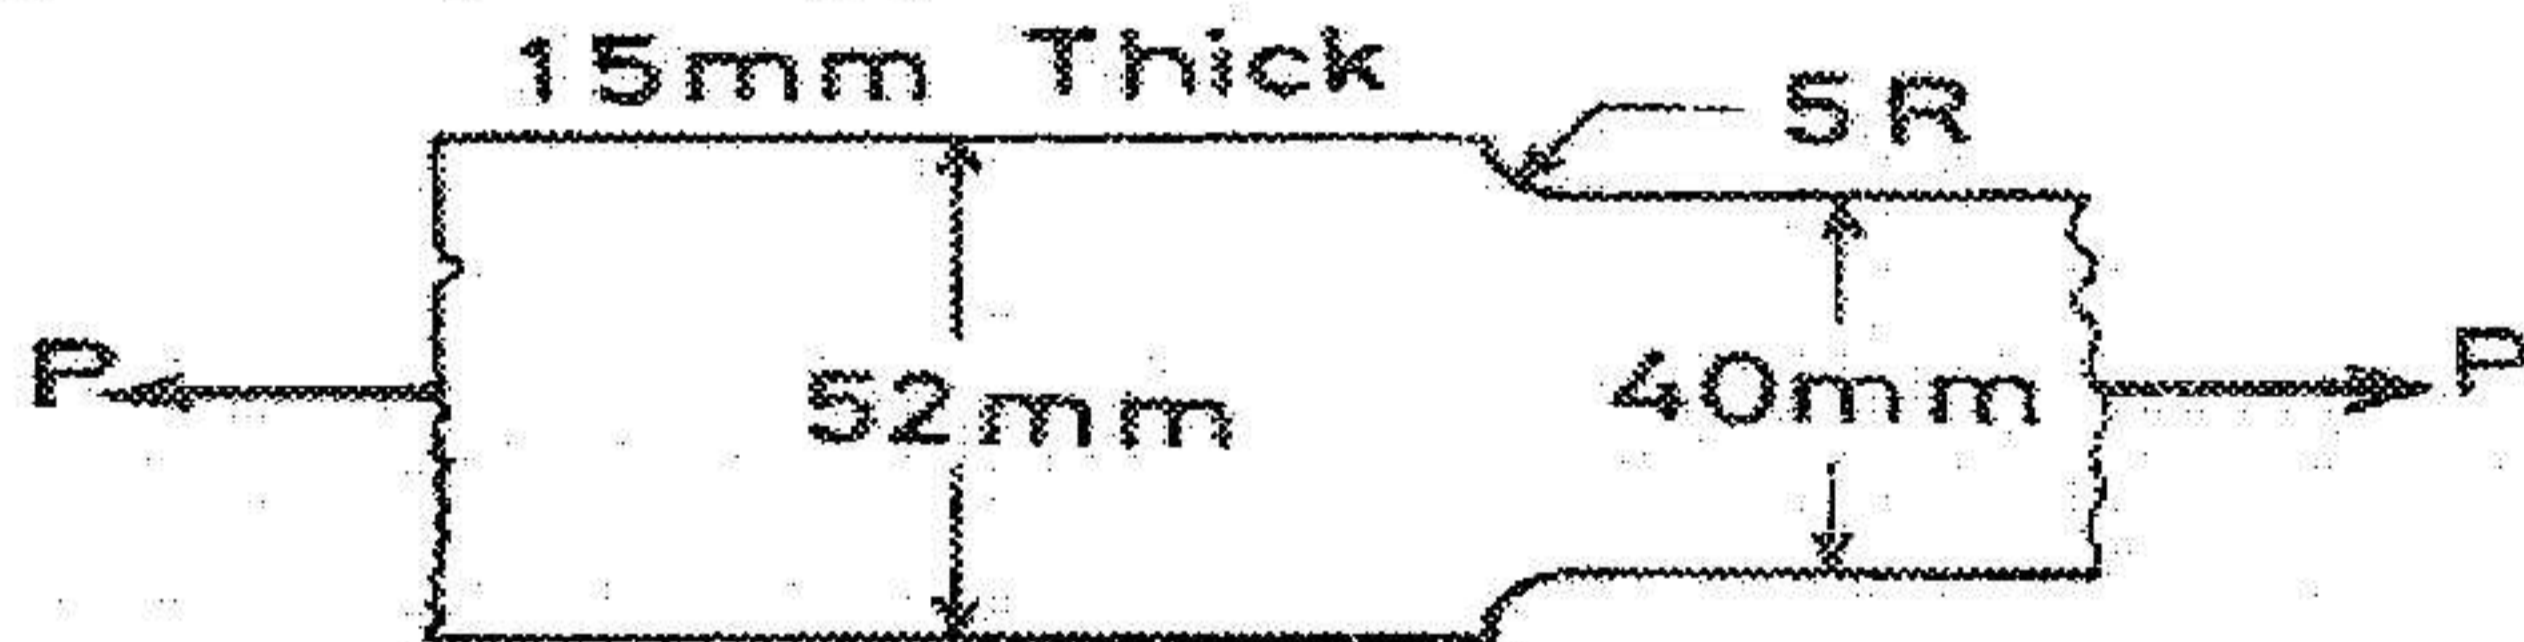

Figure-2
- A steel plate 52 mm wide and 15 mm thick as shown in figure-2 changes in width to 40 mm over a transition radius of 5 mm. The plate is subjected to axial fluctuating load varying between 5F and 2 F. The steel plate is heat treated to have tensile strength of 920 N/mm² and yield strength of 750 N/mm². Assume notch sensitivity index of 0.9 and that the notch is ground finished. Also assume that there is no effect of size in case of plate. *Calculate the load that can be applied in the fluctuating cycle.*